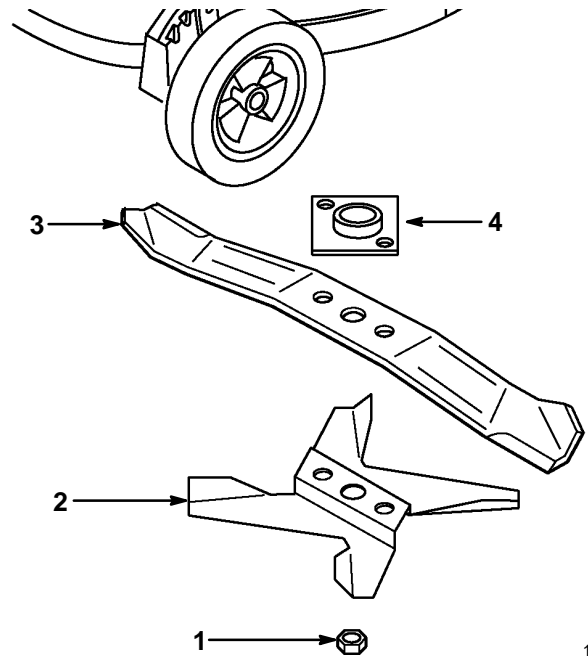

Figure 28
1. Remove blade nut and mulching fan (Fig. 28).
2. Remove blade from blade driver (Fig. 28).
1. Install blade driver onto crankshaft (if removed) (Fig. 28).